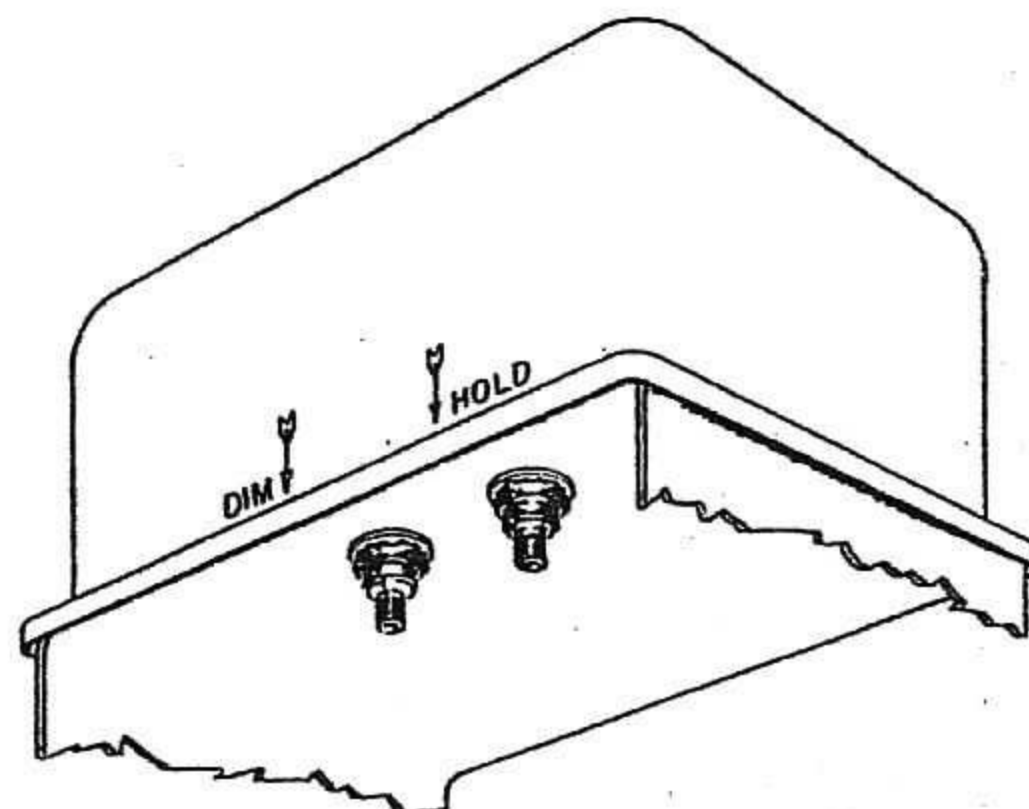

FIG. 4
The Hold and Dim adjustments are knurled fingertip controls located on the bottom (outside) of the amplifier unit. The location of each is indicated by a stamp on the amplifier cover, (See Figure 4.) THE DIM SENSITIVITY ADJUSTMENT MUST NOT BE MADE UNTIL AFTER THE HOLD SENSITIVITY IS CORRECTLY ADJUSTED.
1. Rotate Dim control completely counter-clockwise. (See Figure 4.)